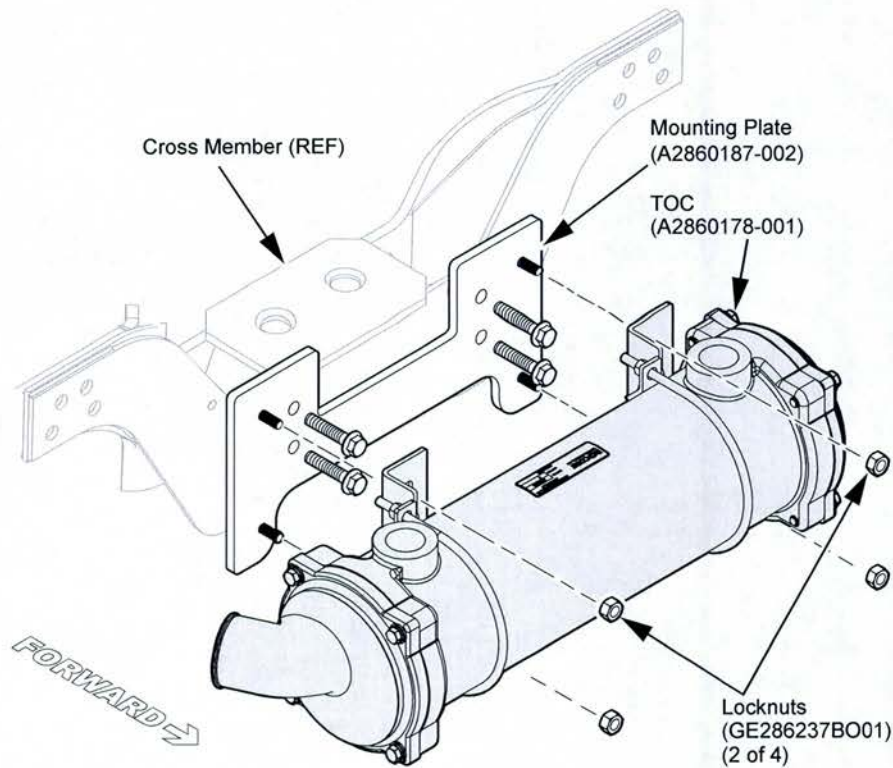

**Figure 6**
11. Remove the 4 fasteners securing the TOC to the cross member and discard the fasteners (see Figure 6).